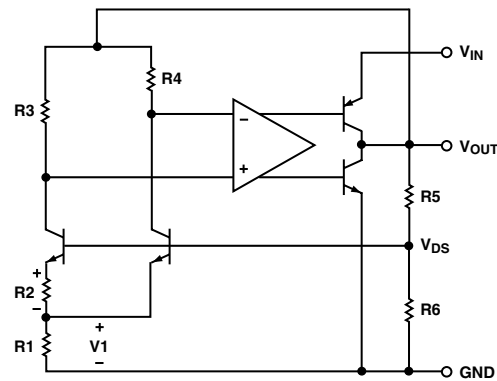

Figure 1. Simplified Schematic
The ADR370 uses the band gap concept to produce a stable, low temperature coefficient voltage reference suitable for high accuracy data acquisition components and systems. This device makes use of underlying temperature characteristics of a silicon transistor's base-emitter voltage (V_{BE}) in the forward biased operating region. Under this condition, all such transistors have a $-2 \text{ mV}/^\circ C$ temperature coefficient (TC) and a V_{BE} that, when extrapolated to absolute zero, 0 K, (with collector current proportional to absolute temperature) approximates the silicon band-gap voltage. By summing a voltage that has an equal and opposite temperature coefficient of $2 \text{ mV}/^\circ C$ with a V_{BE} of a forward biased transistor, an almost zero TC reference can be developed. The simplified circuit diagram in Figure 1 shows how a compensating voltage, V_1 , is achieved by driving two transistors at different current densities and amplifying the resultant V_{BE} difference (ΔV_{BE} , which has a positive TC). The sum (V_{BG}) of V_{BE} and V_1 is then buffered and amplified to produce a stable reference voltage of 2.048 V at the output.